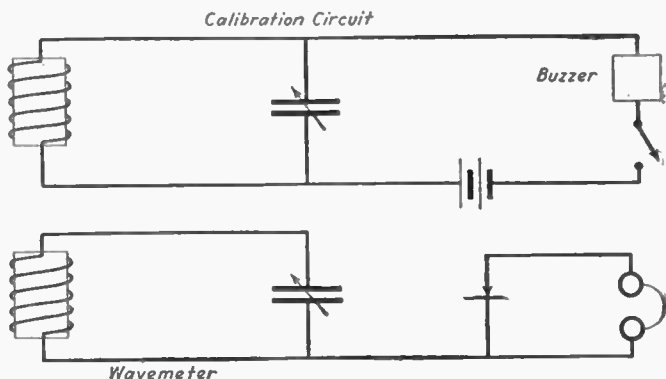

Fig. 3.—Inductance or Capacity can be Measured by Means of this Circuit.
brated condenser, exciting the circuit with a buzzer. When the wave-length of the circuit is measured with a wave-meter, the inductance can be found, knowing the wave-length and capacity of the shunt condenser, by (4). Fig. 3 shows the connections.